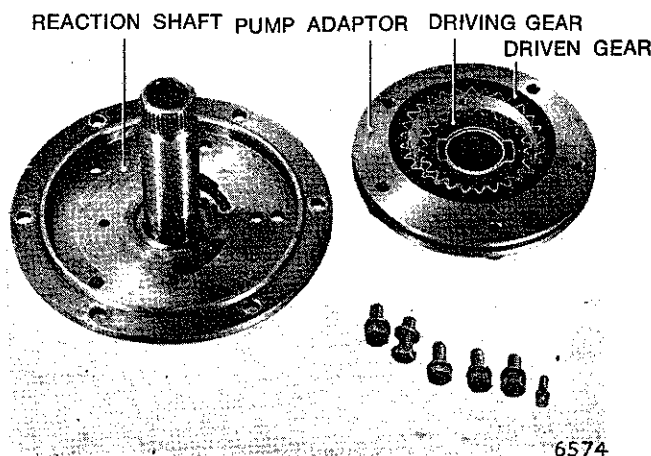

Fig. 36—Reaction shaft and pump adaptor components
- (1) Remove 5 bolts and spring washers and 1 screw and lock washer.
- (2) Separate pump body and gears from converter support assembly (using wood block if necessary).
- (3) Remove the pump body and converter support gasket and O-ring (Refer Fig. 36).
- (4) Remove pump drive gear assembly from housing, **making sure that the outside faces of gears are marked to retain the original position.**
- (5) Remove O-ring from the body. (Oil suction (large) tube.)
- (6) Remove the oil seal from body (may be done at disassembly). Using Tool E21C35G where required.
- (7) Inspect the reaction shaft bushing for wear or damage. Reassemble by reversing the foregoing procedures after cleaning and inspection. Install new oil seal using Tool E21C35F.